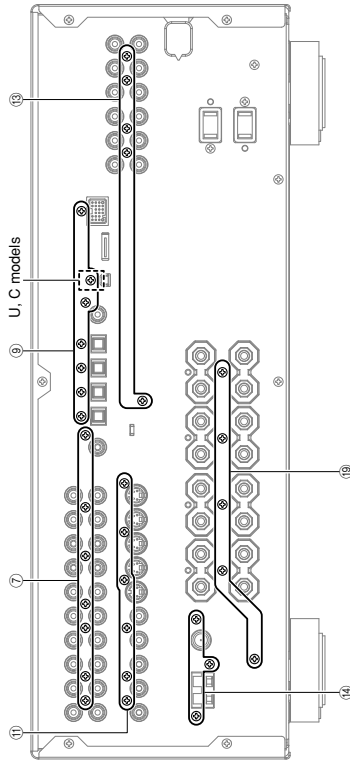

Fig. 4
- b. Remove 6 screws (⑪). (Fig. 4)
- b. Remove 5 screws (⑬). (Fig. 4)
- a. Remove 3 screws (⑭). (Fig. 4)
- c. Remove 5 screws (⑲). (Fig. 4)